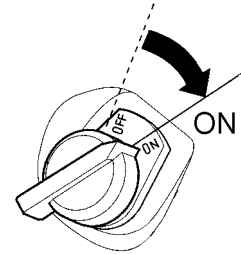

Figure 12. Engine ON/OFF Switch (ON)
4. Place the **engine ON/OFF** switch (Figure 12) in the **ON** position.